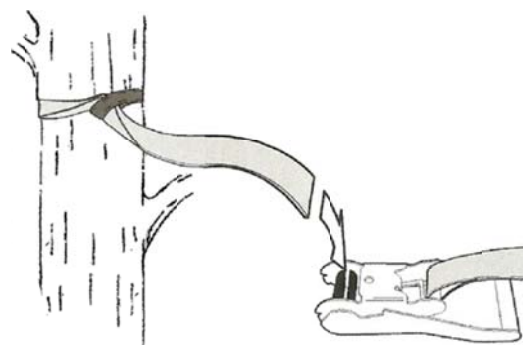

Figure 1.
4. Insert the flat end of the 2" webbing into the ratchet handle, pull webbing through until taut. Tighten slightly to hold. (fig. 1)